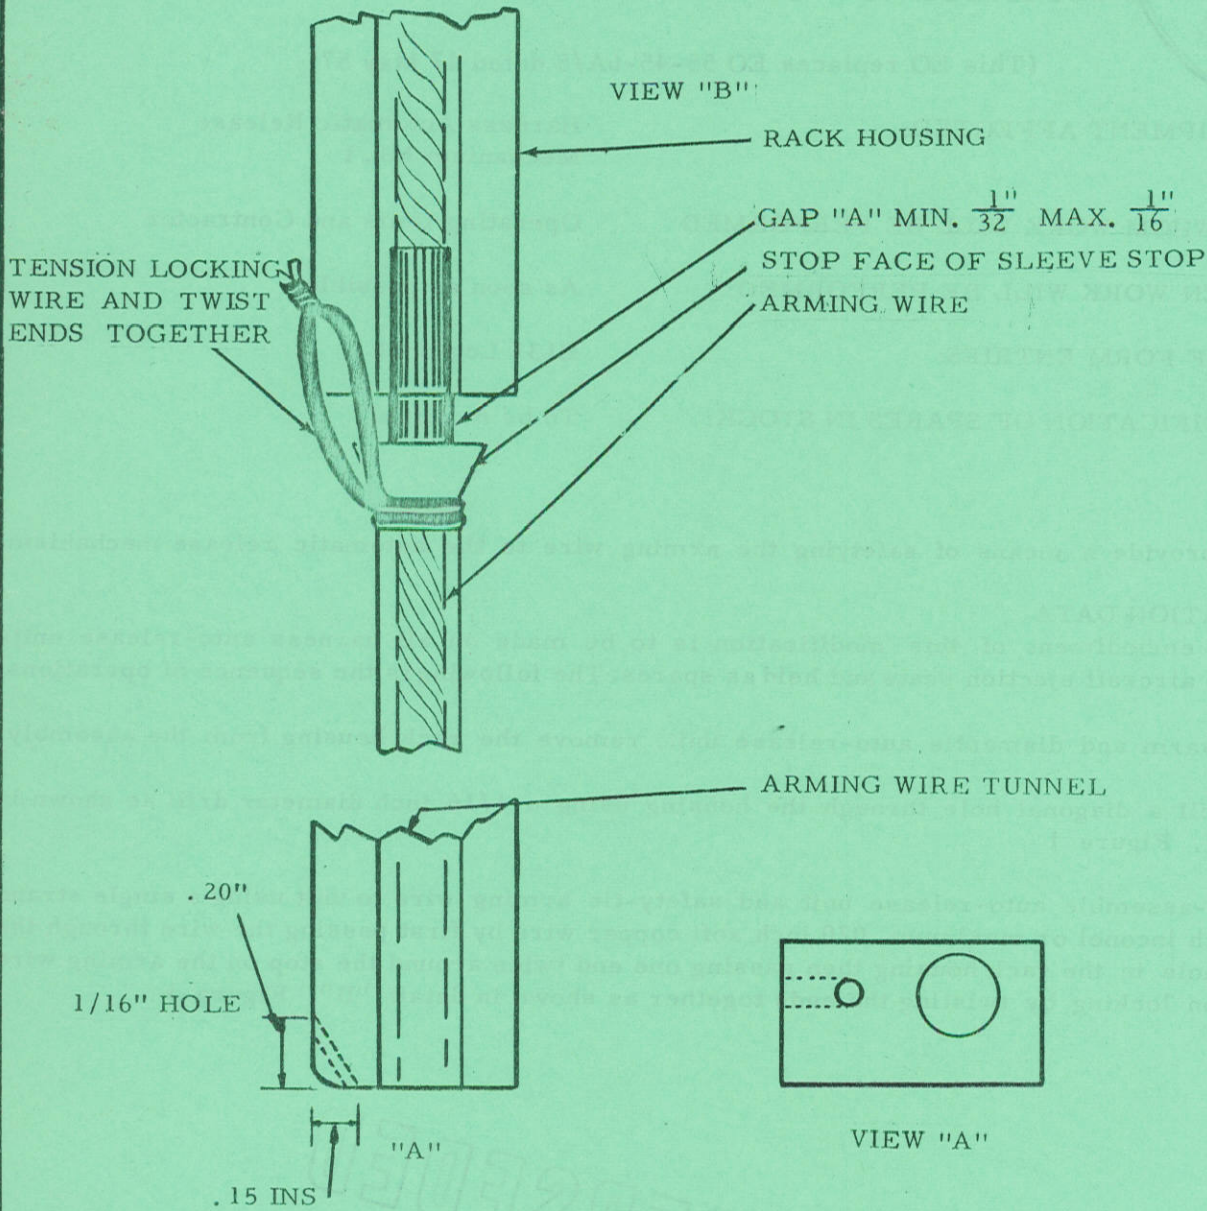

Figure 1 (Issue 1)
- (b) Drill a diagonal hole through the housing using a 1/16 inch diameter drill as shown in detail "A", Figure 1
- (c) Re-assemble auto-release unit and safety-tie arming wire to unit using a single strand of .015 inch inconel or maximum .020 inch soft copper wire by first passing the wire through the diagonal hole in the rack housing then passing one end twice around the stop on the arming wire and tension locking by twisting the ends together as shown in detail "B", Figure 1.